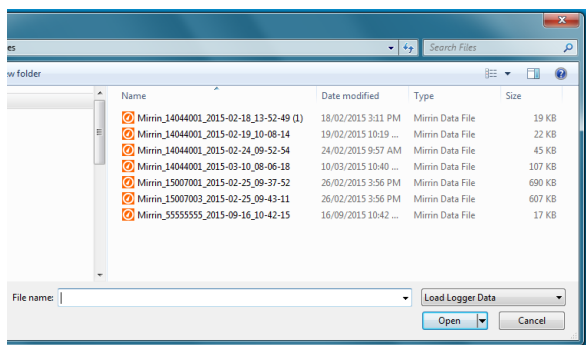

Figure 2.12.2
Step 2: A browsing window opens for locating a 'MLL file' as shown in figure 2.12.2.